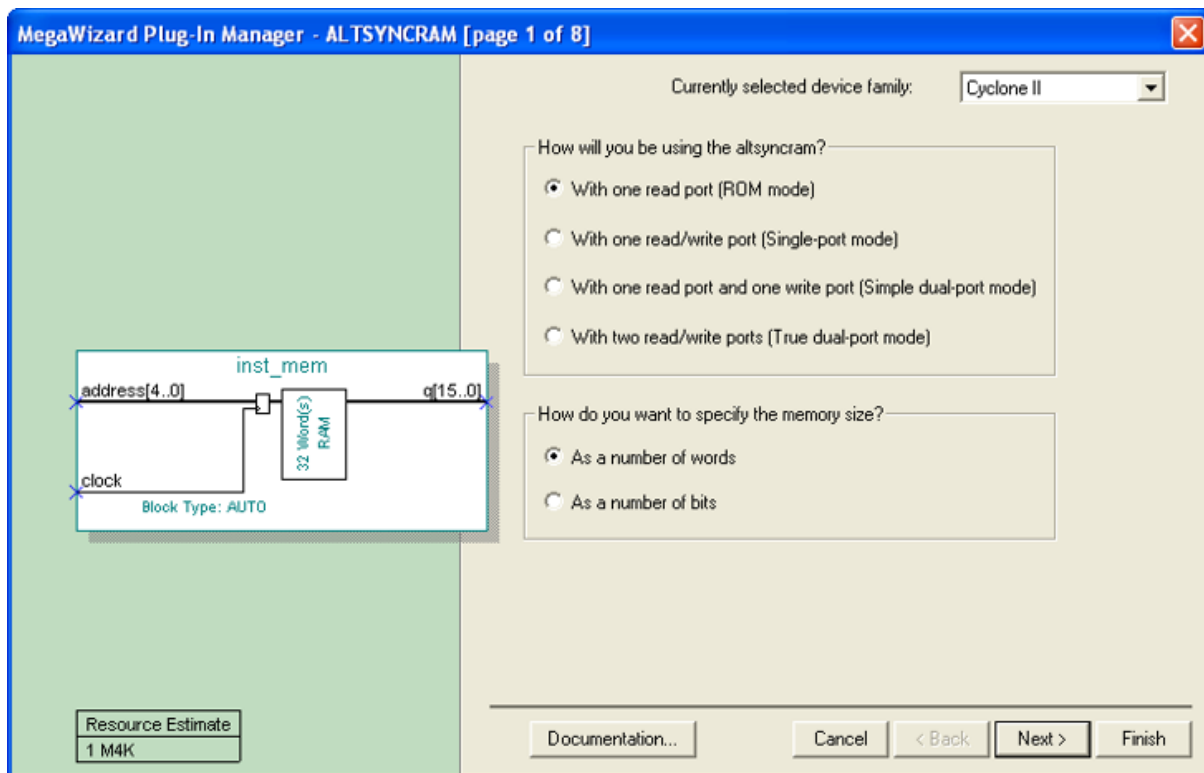

Figure 5. ALTSYNCRAM configuration.
2. Generate a top-level Verilog file that instantiates the processor, memory, and counter. Use the Quartus II MegaWizard Plug-In Manager tool to create the memory module from the Altera library of parameterized modules (LPMs). The correct LPM is found under the *storage* category and is called *ALTSYNCRAM*. Follow the instructions provided by the wizard to create a memory that has one 16-bit wide read data port and is 32 words deep. The first screen of the wizard is shown in Figure 5. Since this memory has only a read port, and no write port, it is called a *synchronous read-only memory (synchronous ROM)*. Note that the memory